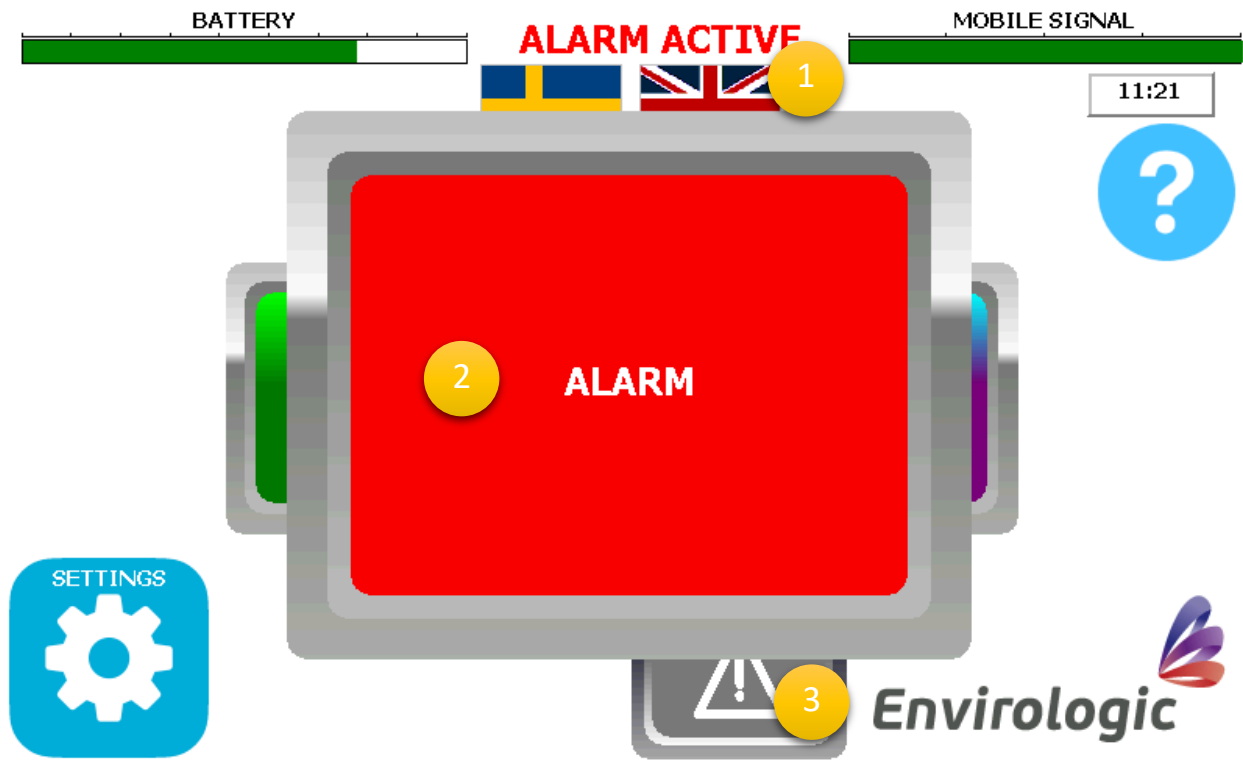

Figure 2 1) Alarm indication 2) Alarm button 3) Alarm list button
- Alarm indication if active, see Figure 2
See XXX for a complete list of alarms. The alarms are indicated by a blinking message at the top of the screen. If the alarm is stopping any further actions a big button which leads to the alarm list is displayed (this button is also shown when the emergency stop has been activated), see Figure 2.